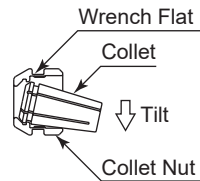

Fig. 10
- ② The collet and collet nut are secured by a groove in the collet and a flange in the collet nut. To remove the collet hold the collet nut in one hand and push diagonally down on the collet. The collet should be released (Fig. 10).
Press the collet in the collet nut by positioning the collet in the collet nut and pressing down on flat surface (Fig. 10).